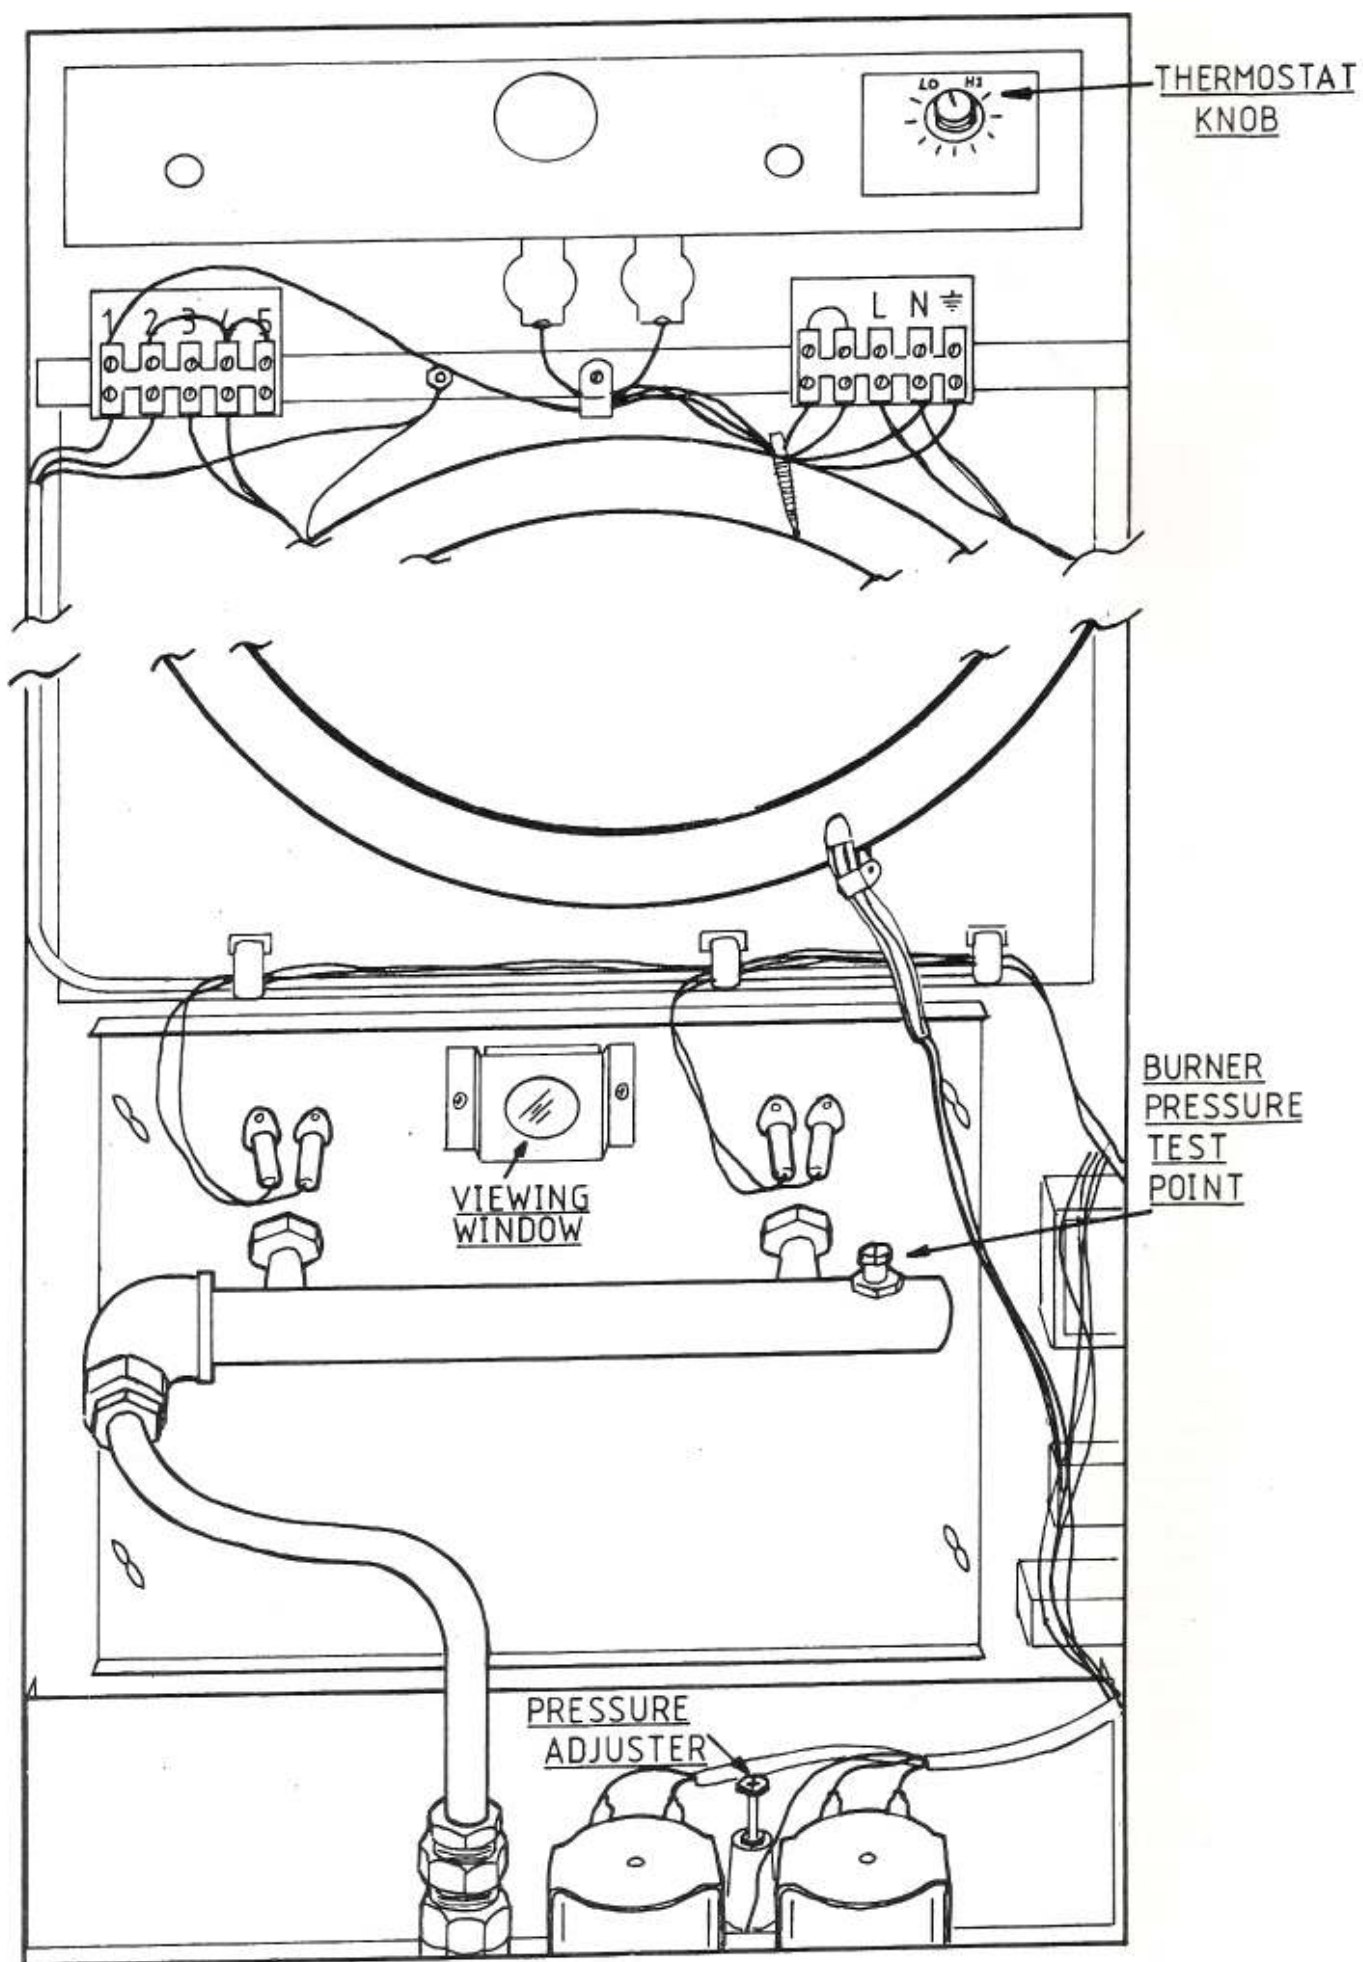

FIG. 6
10.2 Initial Lighting EPF20E (see Fig. 6)